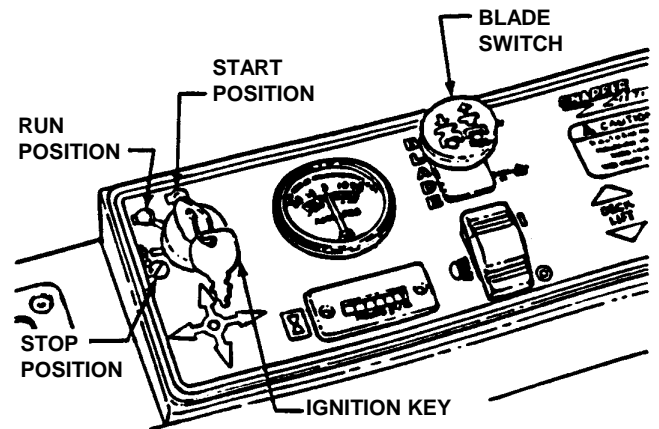

FIGURE 3.6
6. Turn key to the start position until engine starts. See Figure 3.6.
1. Stop engine by turning key to the "OFF" position. Move engine speed control to turtle "SLOW" position and key to "STOP" position. See Figure 3.6.